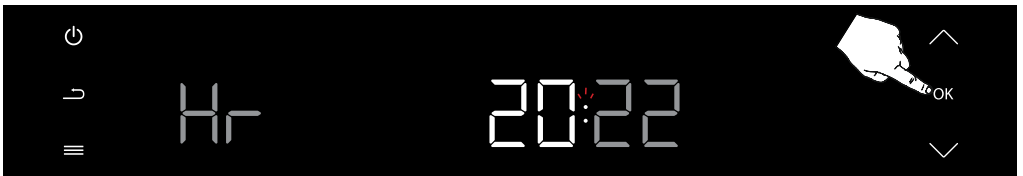

Figure 109
Press the Confirm button (OK) once to confirm the time setting. (see figure 109)